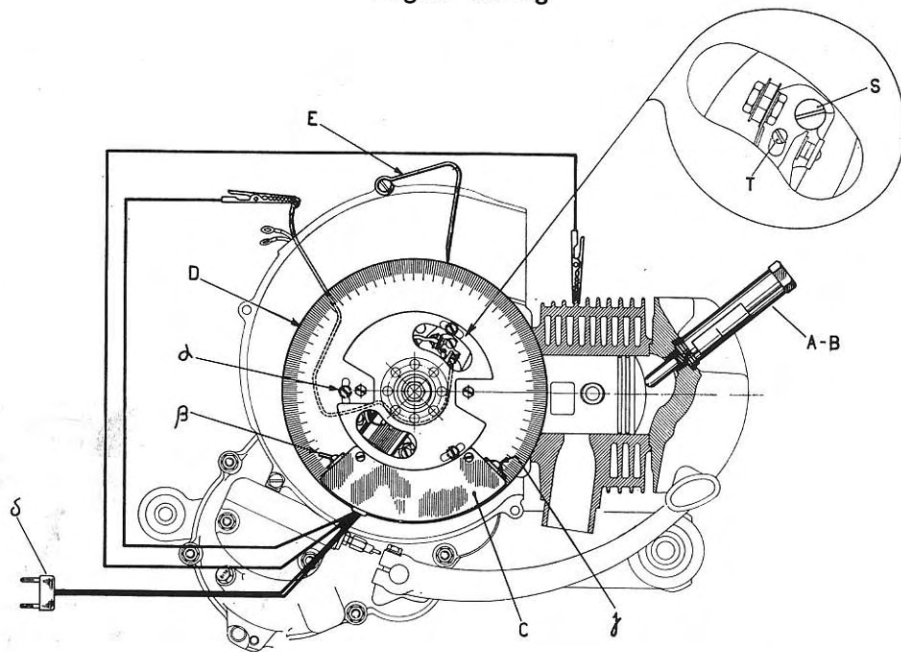

Fig. 72
- (1) Slacken the screws "a" (Fig. 72) securing the stator to crankcase.
- (2) Mount the indexing fixt. "A" (tool T.0023853) using stem T.0026362 in place of the sparking plug and fix the graduated disc "D" (drg. n. T.0023465) directly to the crankshaft with the bracket T.0023465/2, after removing the rotor of the flywheel magneto and after having applied the apparatus "C" (tool T.0027533, which functions with a.c. at 220 V). The indexing fixture "A" should be assembled in conjunction to the cursor "B" (drg. T.0023853).
- (3) Secure the fixed steel wire index "E" (see figure) to one of the crankcase bolts.
- (4) Rotate the disc clockwise by hand, so that the piston nears the T.D.C.: at this points align the mark on the cursor of the indexing fixture "A" with that on the sleeve and mark the position indicated by the fixed pointer.
- (5) Continue rotating the disc clockwise so that the piston proceeds on its upwards stroke, passes the T.D.C. and returns to the original position; i.e., when the mark on the indexing device are once more aligned. Note the new reading on the disc relative to the mark previously signed: the T.D.C. corresponds to the half way mark between the two readings previously mentioned.
- (6) **From the graduation corresponding to the T.D.C. mark of the spark advance, i.e., 26° BTDC $\pm 1^{\circ}$; now rotate the disc a anticlockwise so as to bring the piston in the position corresponding to said spark advance angle.**
- (7) Loosen the screw "S" securing the contact breaker and turn the eccentric "T" to shift the contact breaker so that it touches the cam: the moment when the contact breaker points start to open can be noted when the indicator on the apparatus T.0027533 lights up (the switch " β " should be in the on position) Tighten screw "S".
- (8) With a feeler gauge check the maximum opening of the contact breaker points: which should be 0.019" 0.5 mm. Tighten the screws securing stator. If after having carried out the operations indicated on the previous point **it is not possible to obtain that the opening of the contact breaker points is 0.019" \div 0.5 mm, it is usually advisable to replace the contact breaker and repeat the timing operations.**
- N.B.** For checking timing the apparatus T.0023278 can be used; it is similar to the T.0027533 illustrated in Fig. 72 but functions with a d.c. supply at 4 V.